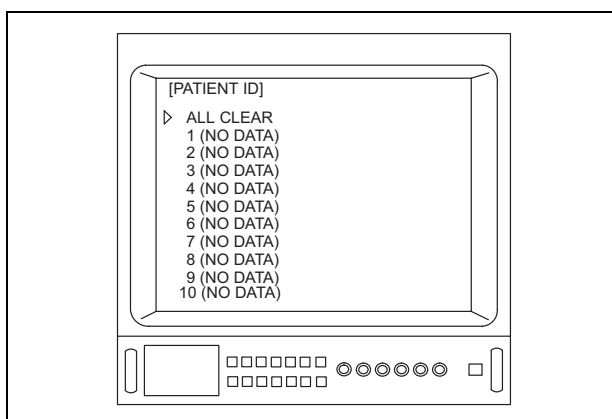

Figure 5.51
7. Depress the menu switch “↵” or the “Enter” key on the keyboard. The patient data are deleted and the menu shown in Figure 5.51 is displayed on the video monitor.